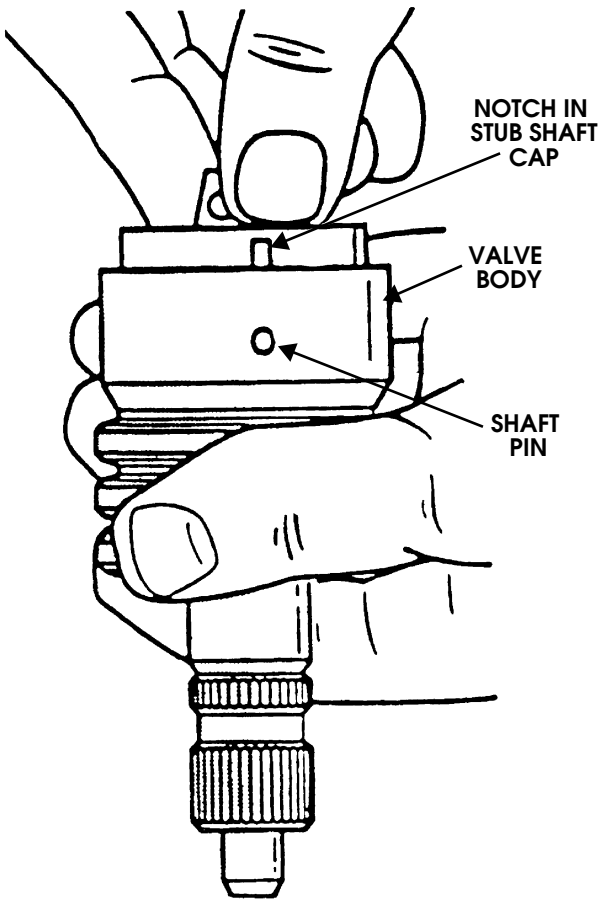

Figure 8-43: Stub Shaft Removal
5. Grasp stub shaft cap and pull it upward to expose shaft pin (Figure 8-43). Then disengage shaft pin from valve body and separate two components.